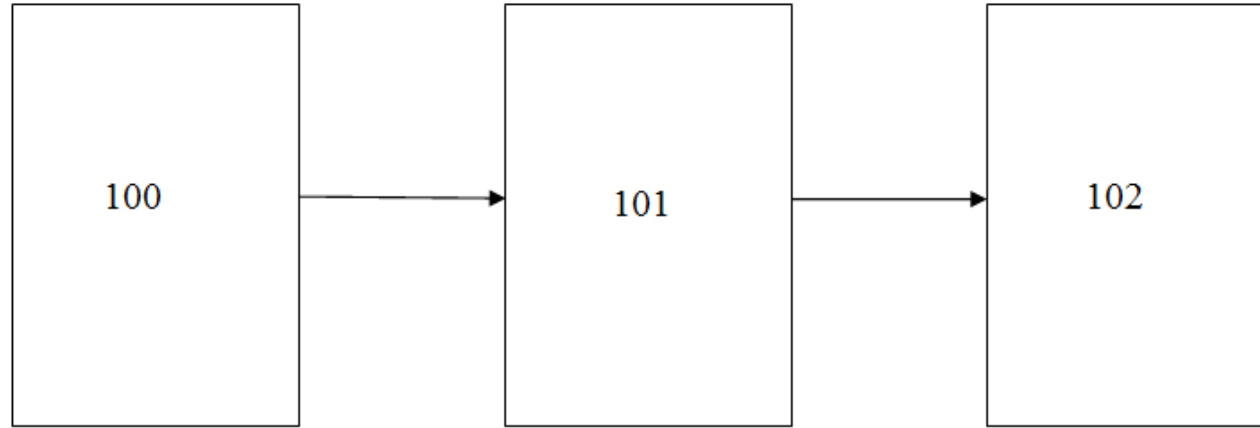

Figure 2
- Figure 2 illustrates system layout of proposed invention. Whereas,
Figure 2 and 2A Drawings (on last page of the proposal)
- Example: (Claims for invention shown in Figure 2 and 2A)